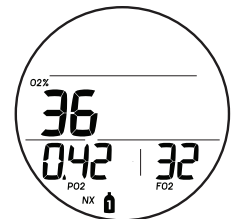

Fig. 95 - NO DECO ALT 2
**No Deco Alt 2** (only if Nitrox), information includes (Fig. 95):